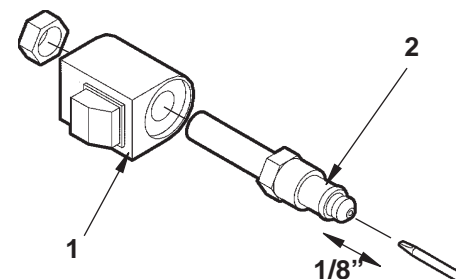

FIG. 47-2
2. Check the valve stem by removing the coil assembly (**Item 1, FIG. 47-2**). With platform on ground, unscrew the valve stem (**Item 2, FIG. 47-2**) from the pump. Push on the plunger that is located inside the valve stem by inserting a small screwdriver blade in the end. If the plunger does not move freely, (approximately 1/8") replace the valve stem. **When reinstalling valve stem, torque hex nut to 30 in-lbs.**